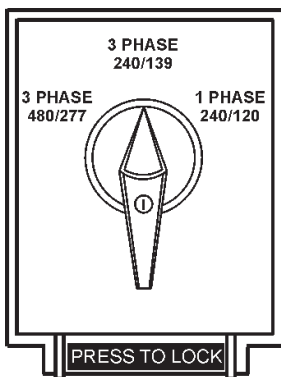

Figure 14. Voltage Selector Switch
A wide range of voltages are available to supply voltage for many different applications. Voltages are selected by using the **voltage selector** switch (Figure 14). To obtain some of the voltages as listed in Table 5 (see below) will require a fine adjustment using the **voltage regulator (VR) control knob** located on the control panel.
The **voltage selector** switch (Figure 14) is located above the UVWO Hard Wire Hook-up Panel. It has been provided for ease of voltage selection.